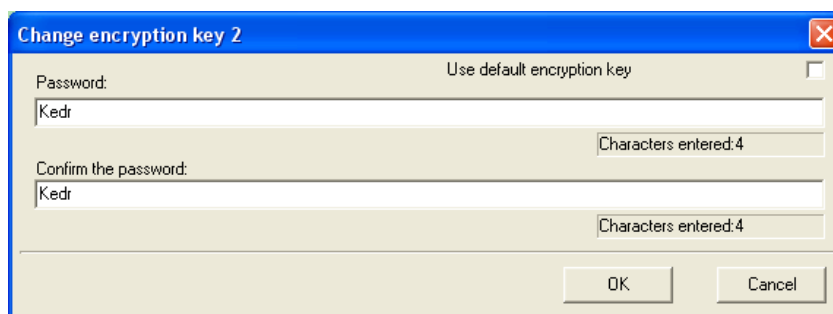

Figure 22. Changing Encryption Key
- MasterKey (encryption key). This key is used for encrypted transmitting of events to Egida rev.3 Central Monitoring Station. To specify a key, open the relevant dialog window by clicking the check mark at the right part of the MasterKey field (see Figure 22). To use the default encryption key, tick the relevant box at the right top part of the window.